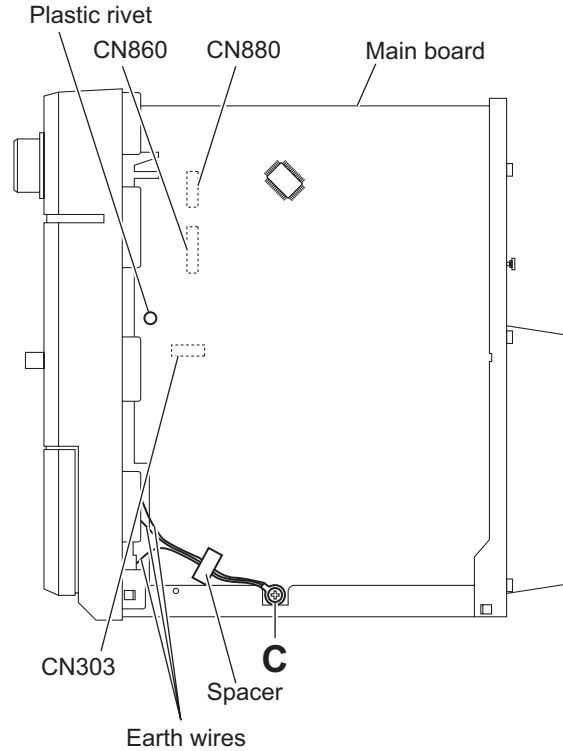

Fig.4
### 3.1.2 Removing the front panel assembly (See Figs.4 to 7)
- (1) From the right side of the main body, remove the screw **C** attaching the earth wires on the reverse side of the main board. (See Fig.4.)
After attaching the earth wires, fix them with a spacer as before. (See Fig.4.)
- (2) Remove the plastic rivet attaching the main board. (See Fig.4.)
- (3) From the inside of the main body, disconnect the card wires from the connectors (CN303, CN860, CN880) on the forward side of the main board. (See Fig.4.)